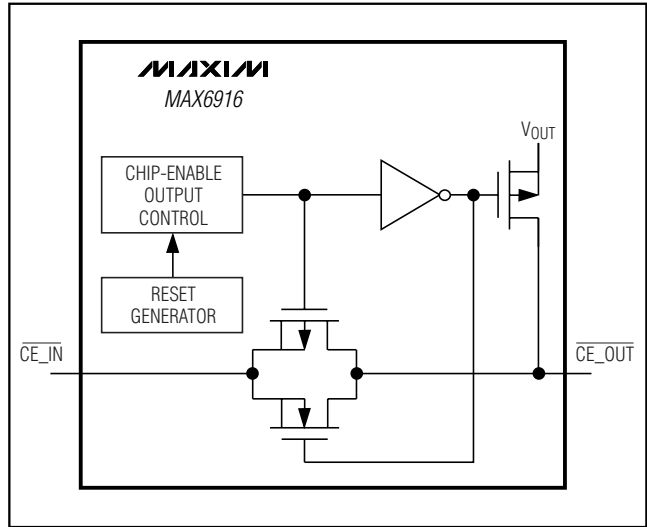

Figure 11. Chip-Enable Gating
Internal gating of chip-enable (CE) signals prevents erroneous data from corrupting external SRAM in the event of an undervoltage condition. The MAX6916 uses a transmission gate from $\overline{CE_IN}$ to $\overline{CE_OUT}$ (Figure 11). During normal operation (\overline{RESET} inactive), the transmission gate is enabled and passes all CE transitions. When reset is asserted, this path becomes disabled, preventing erroneous data from corrupting the external SRAM. The short CE propagation delay from $\overline{CE_IN}$ to $\overline{CE_OUT}$ enables the MAX6916 to be used with most microprocessors. If $\overline{CE_IN}$ is low when reset asserts, $\overline{CE_OUT}$ remains low for t_{rCE} to permit completion of the current write cycle.
When the CE transmission gate is enabled, the impedance seen at $\overline{\text{CE_OUT}}$ is equivalent to a 46Ω (typ) resistor in series with the source driving $\overline{\text{CE_IN}}$. In the disabled mode, the transmission gate is off and an active pullup connects $\overline{\text{CE_OUT}}$ to V_{OUT} (see Figures 11 and 13). This pullup turns off when the transmission gate is enabled.